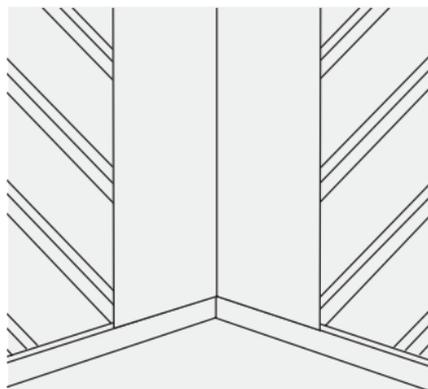

Fig. 69 – Lining the valley
- 4 A single strip of roofing underlay, at least the full width (500mm) of the valley boards, should be laid up the centre and directly on top of the boards allowing for an overlap beyond the fascia line where appropriate and which may be trimmed later (Fig. 69).